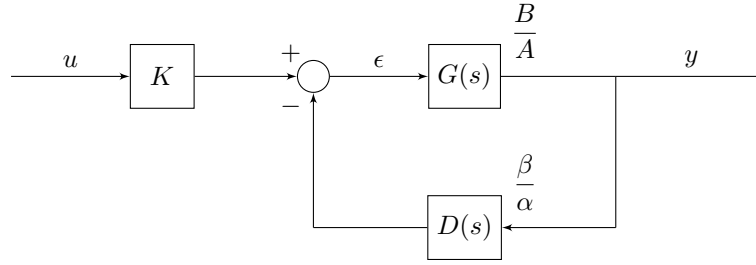

Figure 10: Direct Design system with K as a scaling input, G is the plant and D (β/α) is the controller.
The general structure for a Direct Design system is shown in Figure 10. This is different than previous designs in that the controller (D) is in the feedback loop and there is a gain (K) on the input.